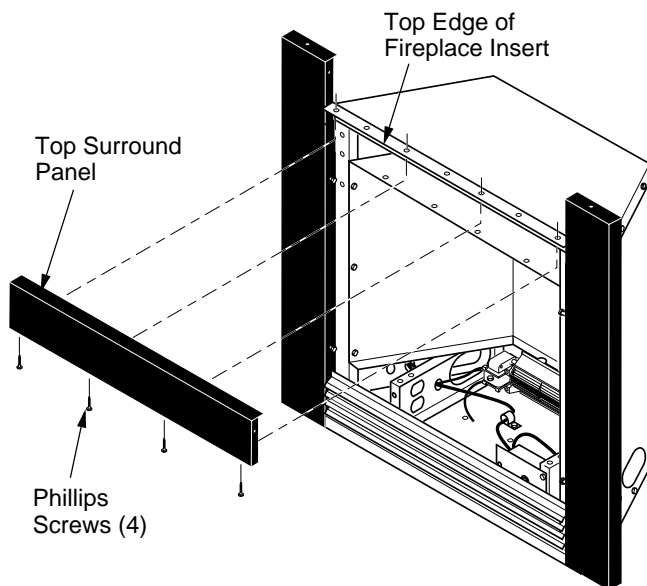

Figure 8 - Attaching Top Surround Panel
5. Place top surround panel at top of fireplace insert. Bottom edge of panel will slide under top edge of insert. Align top panel screw holes with those in insert. Install four #10 Phillips screws, do not tighten. See Figure 8, page 9